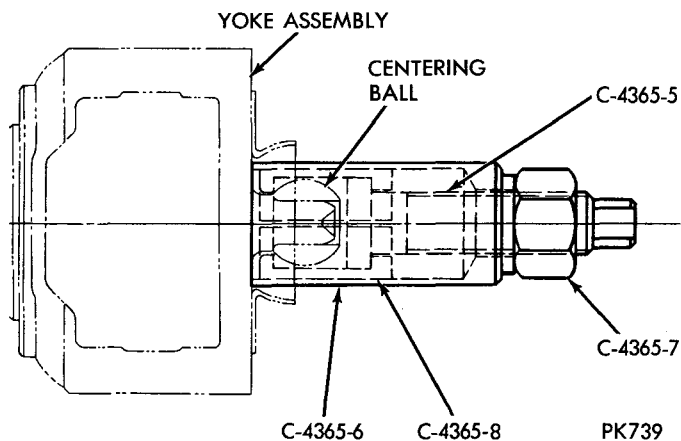
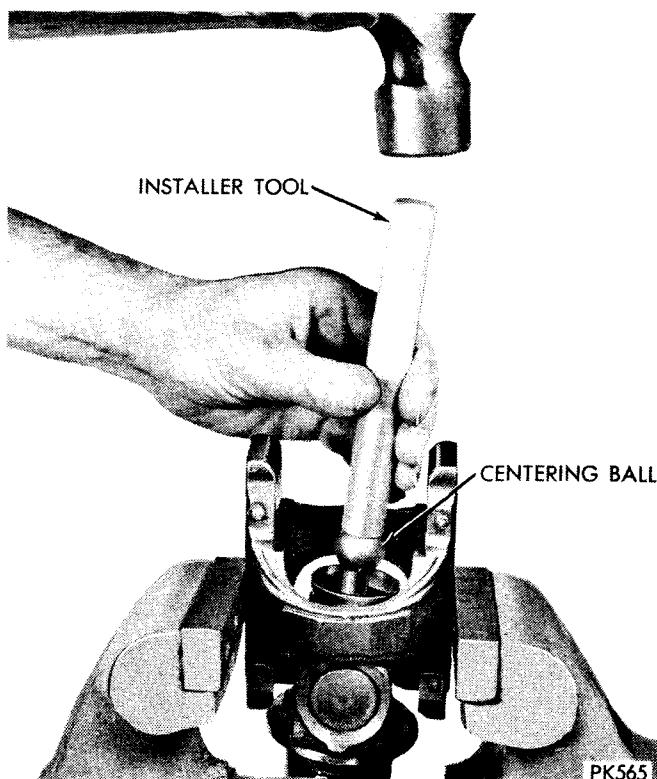

Fig. 12—Centering Ball Removal (Tool C-4365-5, 6, 7, 8)
Fig. 13—Centering Ball Installation (Tool C-4365-3)
(5) Remove centering ball using components of Tool C-4365; C-4365-5 screw, C-4365-6 sleeve, C-4365-7 nut and C-4365-8 jaws as shown in (Fig. 12).
(6) Draw the ball off the ball stud.
(7) To install centering ball onto stud, drive until ball can be seen to seat firmly against the shoulder at the base of the stud (Figure 13).